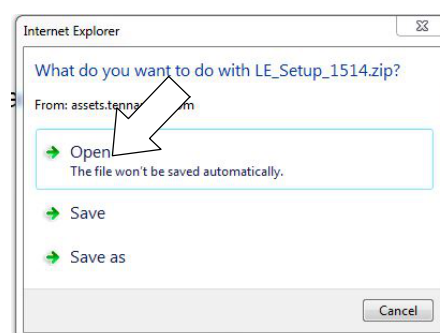

Fig. 33
5. To download the service software continue to click as instructed then click the Save button (Figure 33).